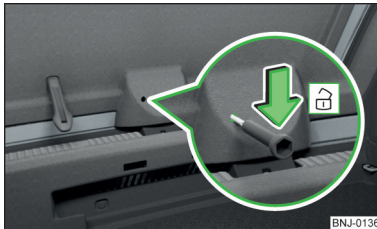

Fig. 285
- › Insert a screwdriver or similar tool into the opening in the trim » Fig. 285 as far as the latch.